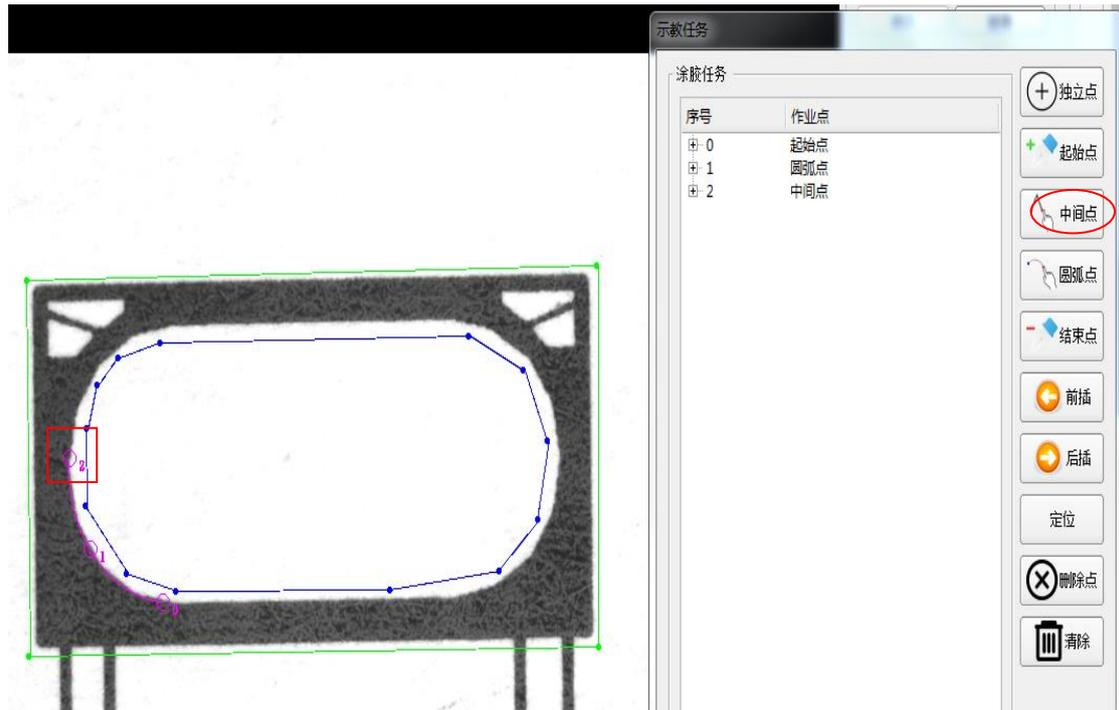

Figure 31 Middle point adding
3) Add the middle point on 90 degrees of the arc line, as shown in figure 31;